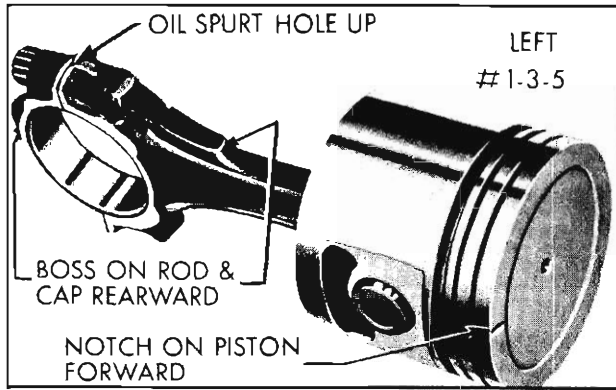

Fig. 3-130 Left Bank Piston and Rod Assembly
2. If the piston and rod assembly is to be installed in the left bank, the assembly must be made as shown in Fig. 3-130.
16. Install all other piston and rod assemblies in same manner. When piston and rod assemblies are properly installed, the oil spit holes in the connecting rods will be up, toward the camshaft, the rib on the edge of the rod cap will be on the same side as the conical boss on the connecting rod web and these marks, (rib and boss) will be toward the other connecting rod on the same crankpin. (Figs. 3-130 and 3-131)